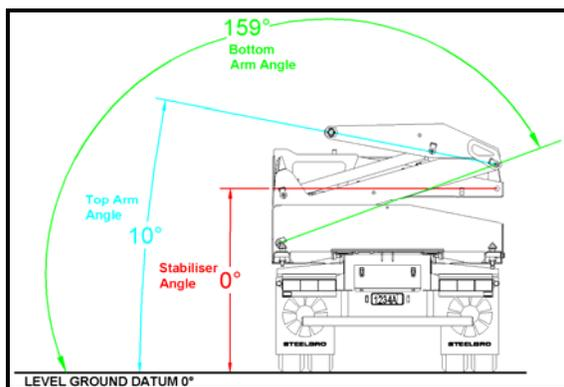

Figure 5
- Check that the Angle Sensor Values are as per Figure 5. Tolerance  $\pm 1^\circ$ .